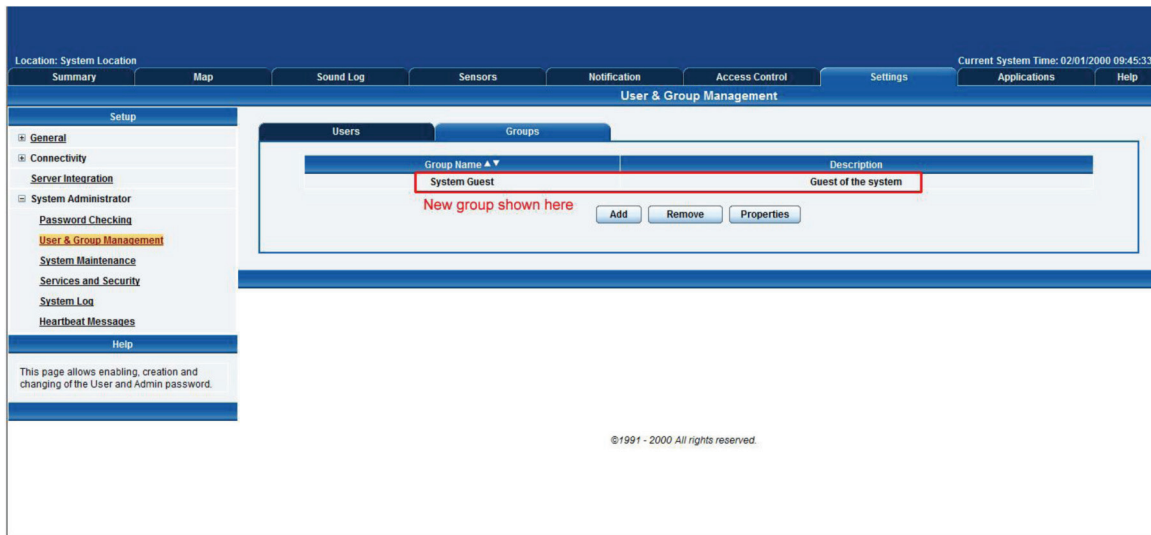

Figure 3-16. System Guest group added.
7. The new group "System Guest" has been added to our group list as shown in Figure 3-16.